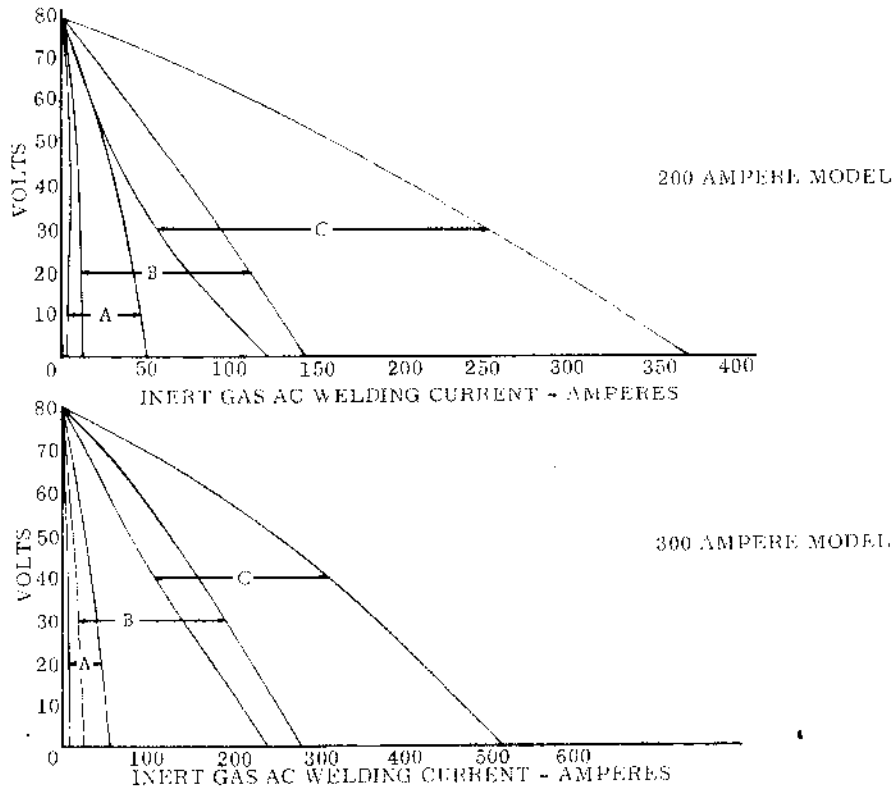

FIGURE 8 - a-c INERT GAS VOLT AMPERE CURVES
11. VOLT-AMPERE CURVES (Figure 8, 9, and 10)